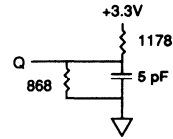

Fig. 2 OUTPUT LOAD EQUIVALENT
6. t_{HZCE} , t_{HZOE} and t_{HZWE} are specified with CL = 5pF as in Fig. 2. Transition is measured $\pm 500mV$ from steady state voltage.